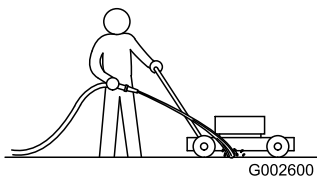

Figure 14
3. With the engine running and the blade engaged, spray a stream of water in front of the **right**, rear wheel (Figure 14).